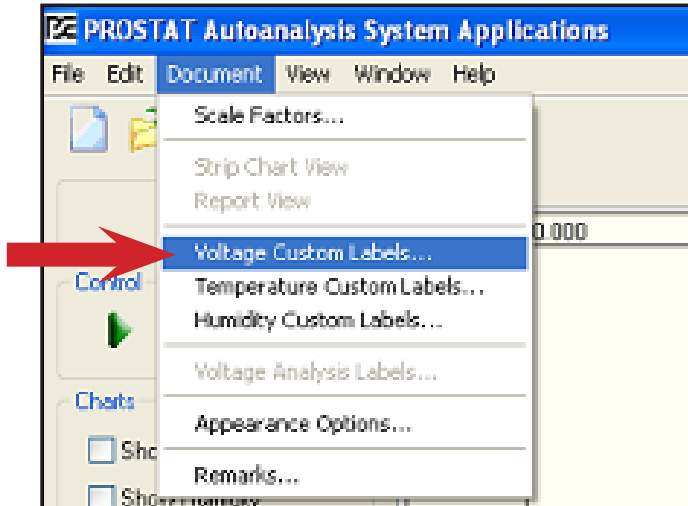

Figure 14: Customize Chart Using Voltage Labels and Lines
2. Highlight Voltage Custom Labels and Click. See Figure 14.